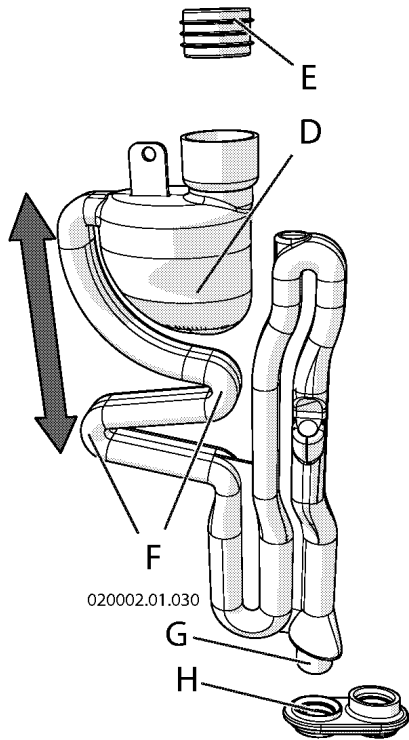

Figure 14-10 Condensate trap
6. re-install the condensate trap taking care attention that the connection "G" (Figure 14-10) of the trap "D" (Figure 14-10) will be inserted into the site "H" (figure 14-10) present inside the boiler jacket;